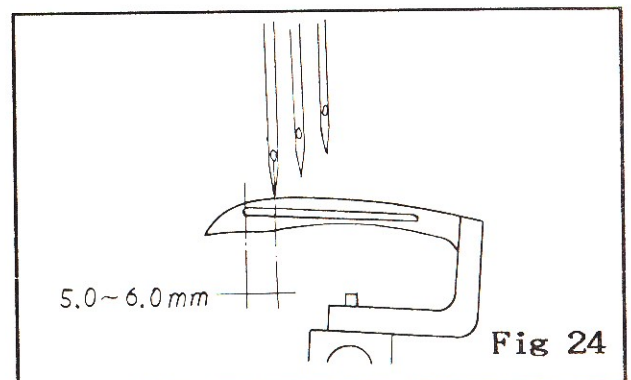

Fig 24
- (5) When the left needle goes down and its point is flush with the looper blade, the distance between the center of the looper's eye and the centerline of the extreme left needle should be 5.0 mm-6.0 mm. (Fig 24)